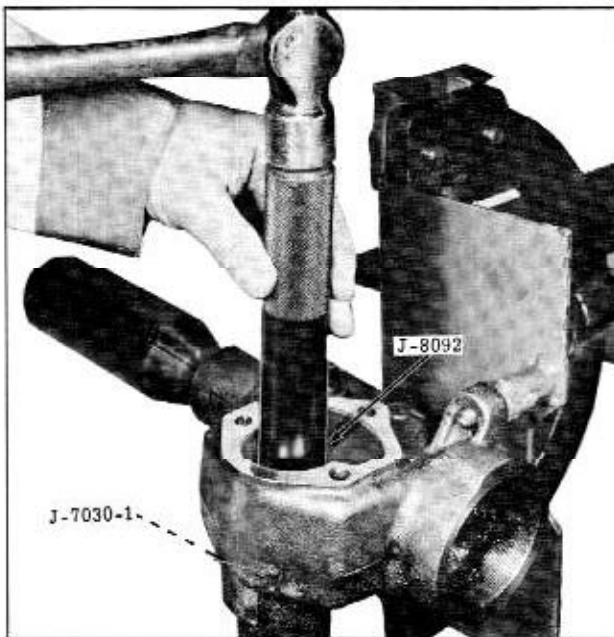

Fig. 4-13 Removing Needle Bearing
2. If pitman shaft needle bearing is to be replaced, use Tool J-7030-1 with Driver Handle J-8092 to drive bearing and seal from housing. (Fig. 4-13)